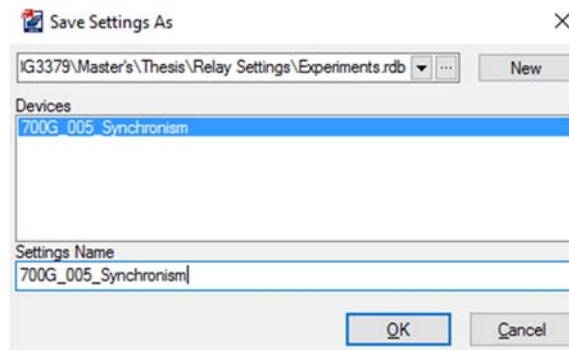
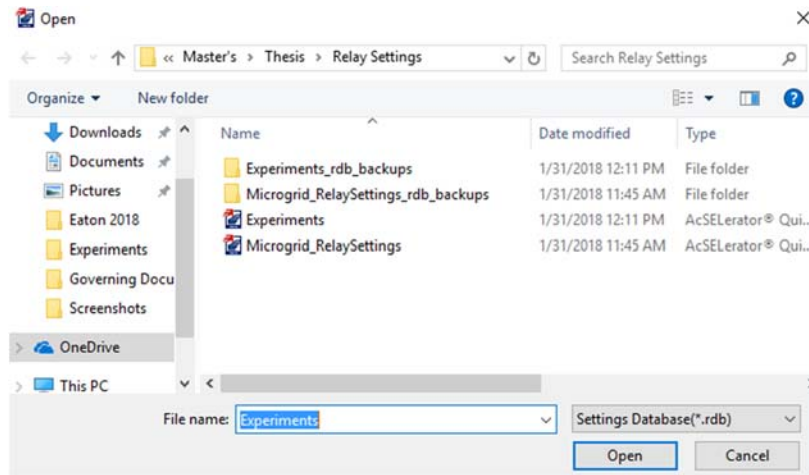

Figure 31: Saving SEL-700G Settings
Figure 32: Choosing Location for New SEL-700G Settings Database
- 8. Save this relay settings database file (File, Save As; New if you do not want to use an existing settings database) in a location where it may be reused in future experiments. See Figure 31 and Figure 32. Then create a Settings Name for this settings file.